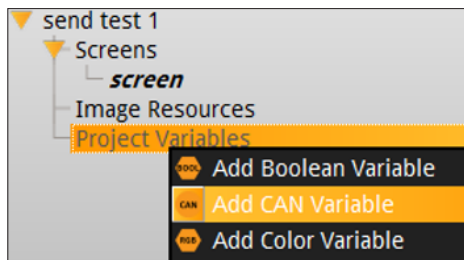

Figure 17. Adding a CAN Variable in the Project Browser.
- Go to the Project Browser in the top left-hand area of the workspace and select Project Variables from the tree. Right-click and select "Add CAN Variable" from the context menu (see Figure 17).